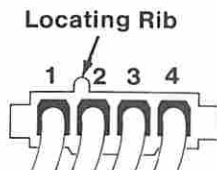

Figure 1. Power Connector
- Check the voltages at the failing fixed disk drive power connector as shown in Figure 1.